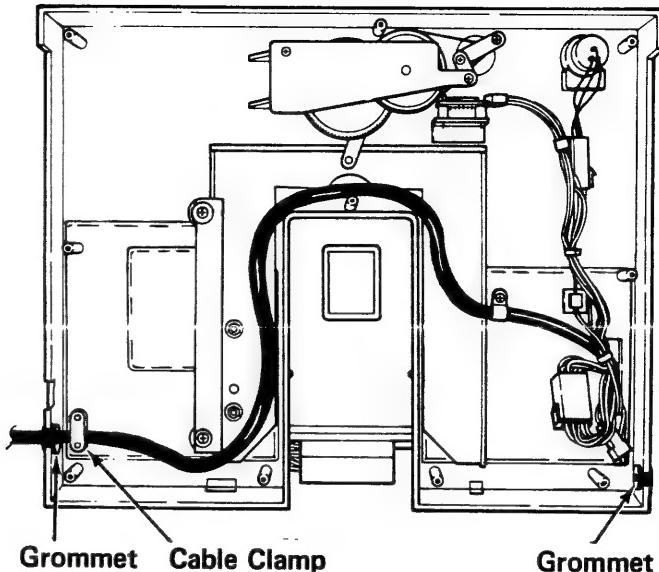
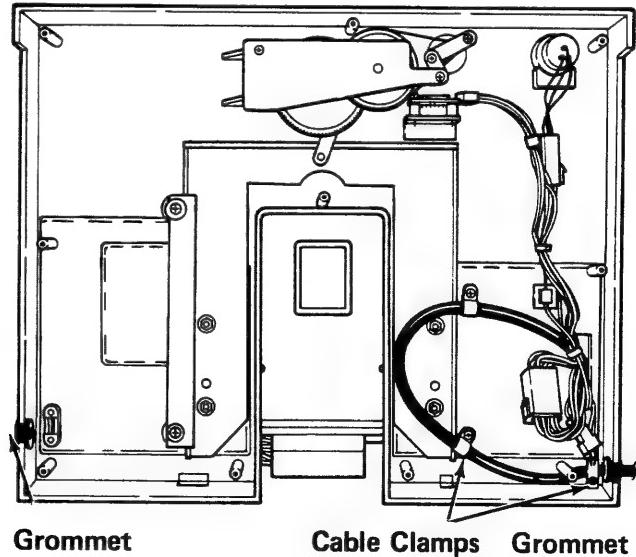

Figure 2-3B
Figure 2-3C
The M-654 is shipped with the Interface Harness exiting to the left (Figure 2-3B) to match connections on newer M-7530's and M7540's. Reroute the Interface Harness, if necessary, to the right (Figure 2-3C) for earlier M7530's.
- c. Remove both Cable Clamps (Figure 2-3B).
- d. Pull the Interface Harness out of the Base at the Grommet (Figure 2-3B).
- f. Reroute the Interface Harness to the right as shown in Figure 2-3C.
- g. Reinstall the Cable Clamps (Figure 2-3C).